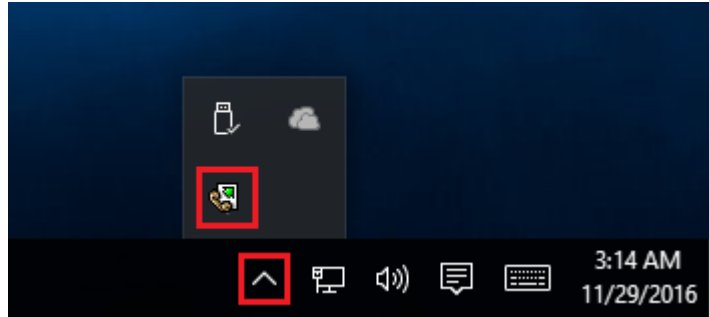

Fig. 6.1.2 Systray - panel near clock
- **Start in minimized state** - at start Log Monitor & Export will automatically minimize the program window to the taskbar or to the Systray (fig. 6.1.2).